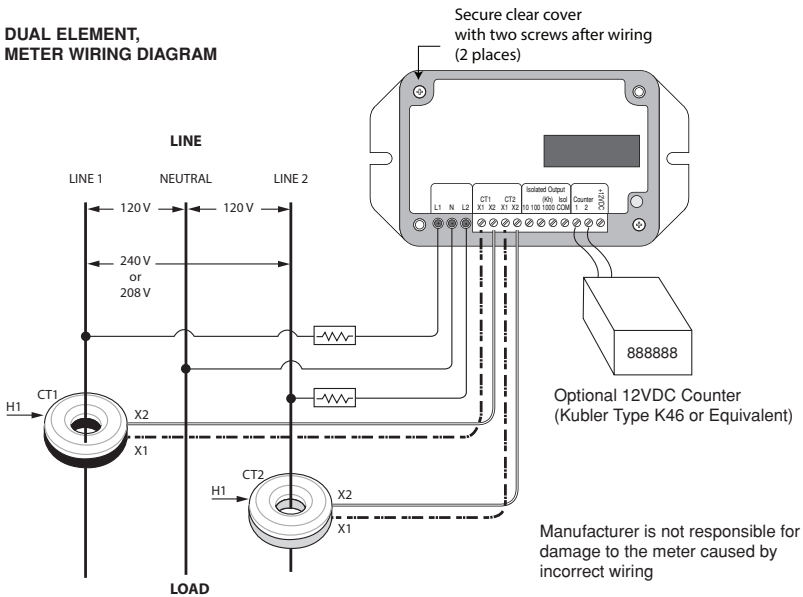

Figure 5 - Dual and Single Element Meter Hookup Diagram
5. Following all national and local electric codes, connect wires to appropriate locations in the load center. Wires should be tightened so that they are held snugly in place, but do not to over-tighten, as this may compress and weaken the conductor. See figure 5 for meter wiring diagram.
NOTE: Failure to install CTs in the correct orientation and on the correct phase will lead to inaccurate meter readings. The meter wiring diagram is shown in Figure 5.